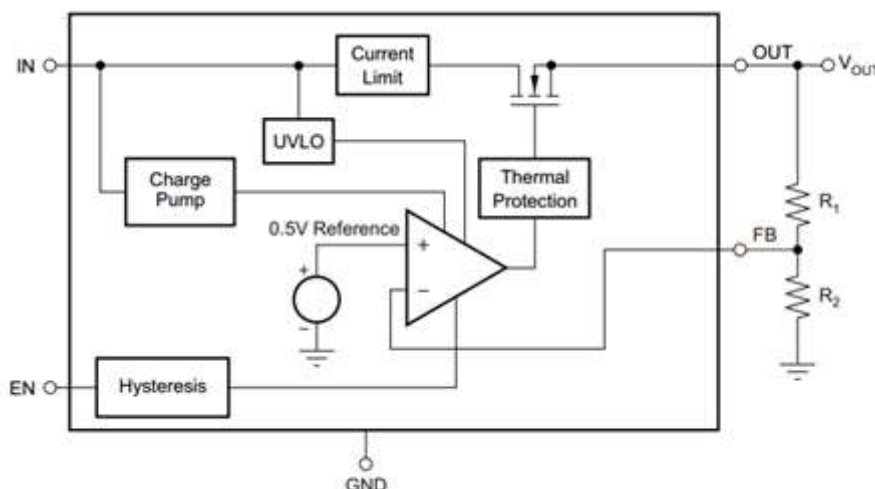

Figure 2: Example LDO topology, TPS7A7002
Figure 2 shows the topology of a typical adjustable LDO. Notice that the internal reference of the LDO feeds to the non-inverting terminal of the amplifier, which drives the gate of the pass FET. Hooking up the inverting input of the amplifier to the feedback (FB) or adjust (ADJ) pin of the LDO then creates a feedback loop. This causes the amplifier to drive the gate of the pass FET in such a way that the resistor divider of R1 and R2 develops a voltage at the FB pin equal to the LDO's internal reference voltage.